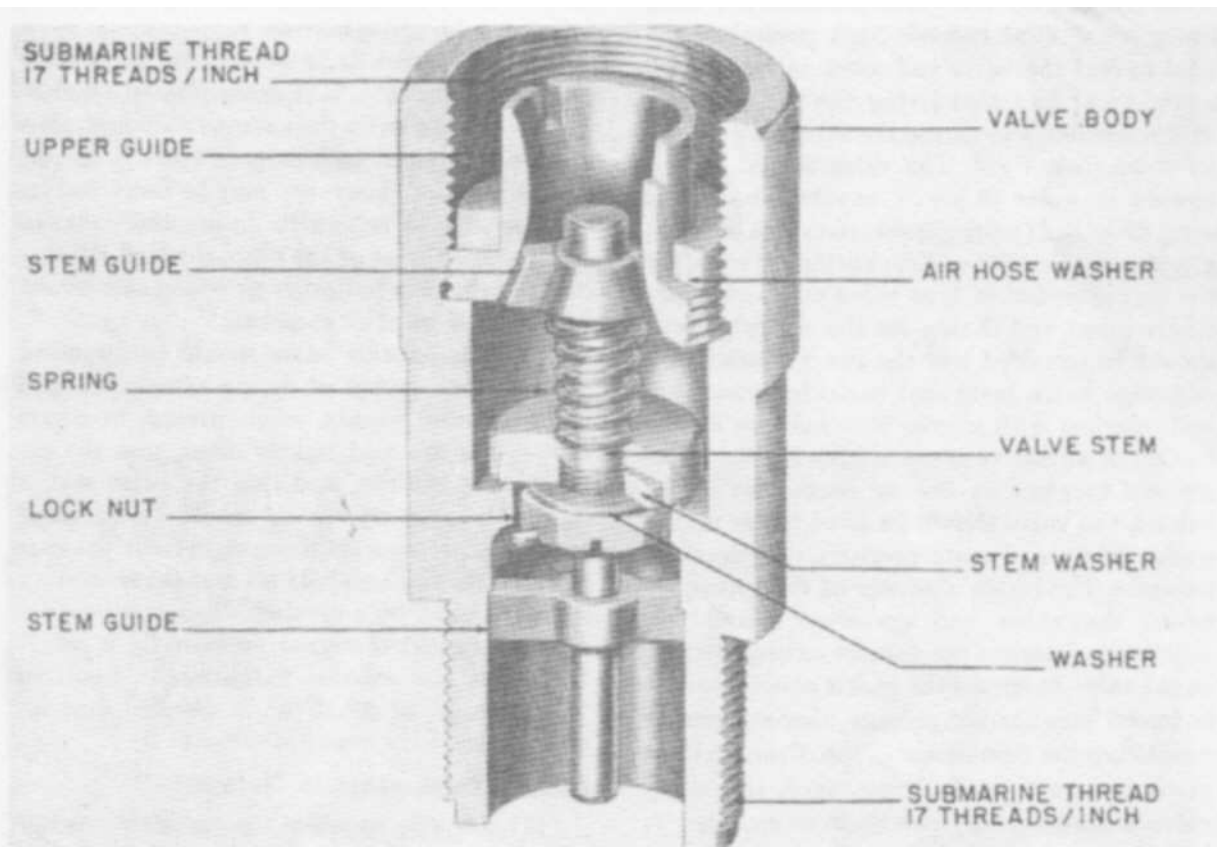

FIGURE 2-7(a).—Safety air nonreturn valve, spring and stem type.
(6) The safety air nonreturn valve is one of the most important safety devices supplied the diver. Its purpose is to prevent the diver from being injured by "squeeze" if his air hose bursts, or the air-supply system becomes so seriously damaged as to fail to maintain an air pressure sufficient to counteract the external water pressure. Under either of these conditions, the air pressure in the hose would fall suddenly. If the compressed air in the helmet and dress should escape through the air hose, the pressure within the helmet and dress would become less than the external water pressure. Because the helmet is rigid and the dress is flexible, the greater external pressure would squeeze the diver's body into his helmet in the same manner that a cork is forced into an empty bottle when lowered into deep water.
(7) It is essential that the safety air nonreturn valve function properly at all times. It must be carefully tested before a diver is permitted to descend. It should be examined frequently, disassembled, and cleaned. The leather valve-seat washer of the spring and stem type valve and the cartridge and O-ring of the cartridge-type valve should be inspected for wear and tear, cleaned, and given a coating of neat'sfoot oil. The valve spring, valve stem, or valve cartridge, whichever one applies, should also be given a light coat of neat's-foot oil. To test the valve after assembly, screw it in the reverse manner to the end of a length of air hose, attach the hose to the air supply, and apply pressure.
(8) There are two types of diver's air nonreturn valve: the spring and stem type and the cartridge O-ring type shown in figures 2-7(a)